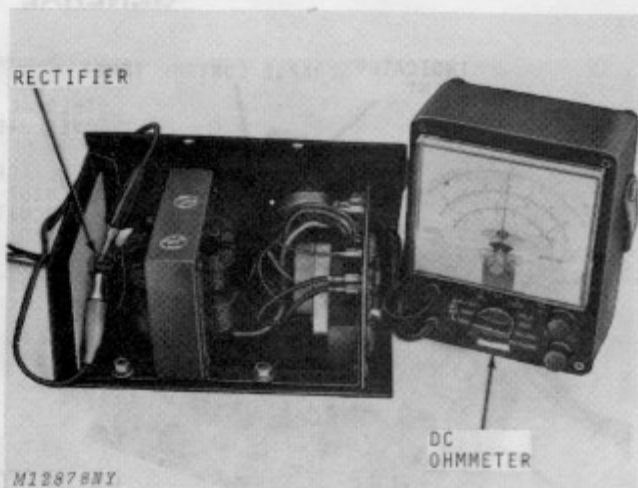

Fig. 3-Testing Rectifier Diodes
2. Using a DC ohmmeter, test the resistance between each adjacent pair of terminals on the rectifier, Fig. 3.